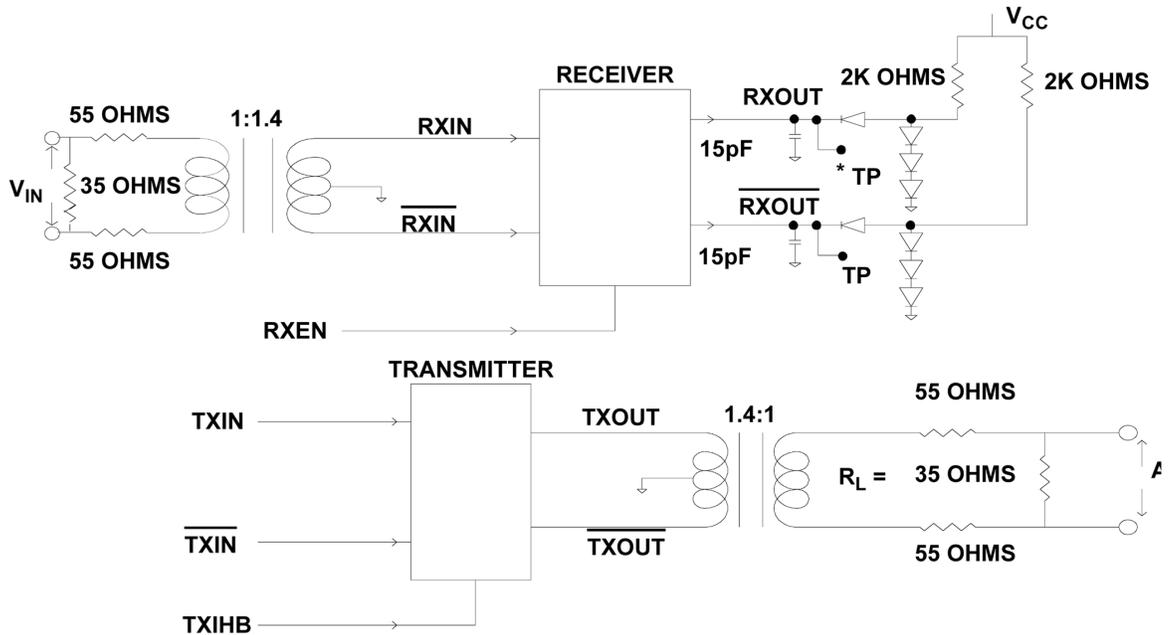

Figure 6. Direct-Coupled Transceiver with Test Load
- 4) Terminal is defined as transceiver plus isolation transformer and fault resistors. Point A defined in figure 6.
- 1) All tests guaranteed per test figure 6.
- 1) All tests guaranteed per test Figure 6.